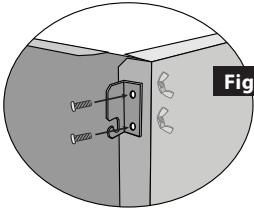

Figure 3
- LEFT BRACKET:** Attach the left side to the back panel through the left bracket. The open slot of the left bracket goes to the bottom. Secure with two bolts and wing nuts. **Figure 3.**